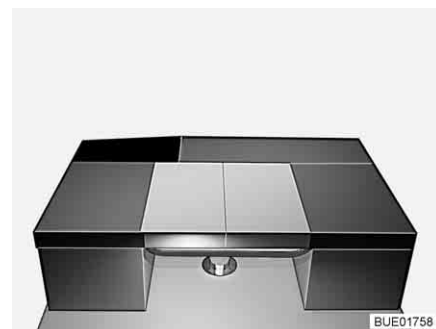

Fig. 143 After conversion
- Place the back cushion of the lateral bench longitudinally on the table (see Fig. 143).